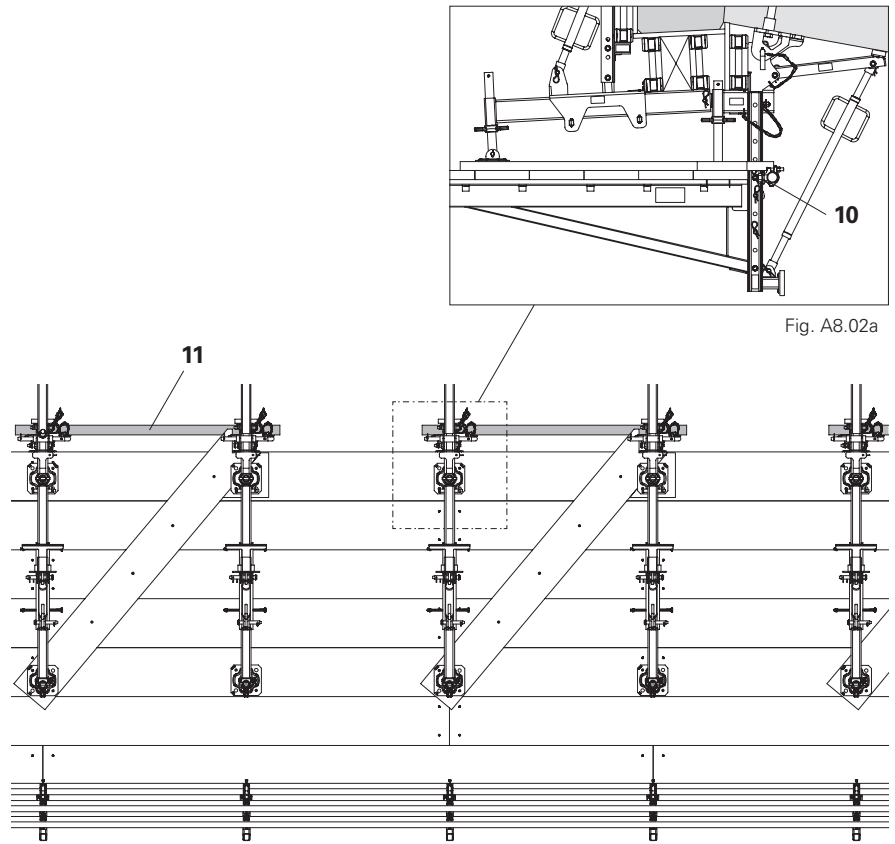

Fig. A8.02
3. Align console brackets and tighten Bracing Connectors VGK (**10**), AF 19. (Fig. A8.02 + Fig. A8.02a)